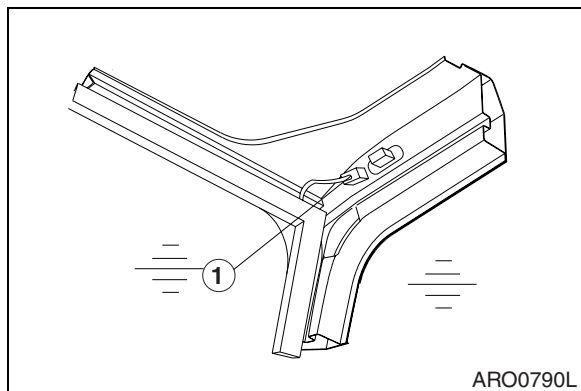

Figure 91
5. Unplug wiper connector (1, Figure 91) on right front upper side of cab.
7. Plug in wiper connector (1, Figure 91) on right front upper side of cab.